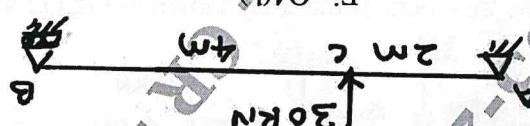

Fig Q4(b)
- b. Using Conjugate beam method determine maximum slope and maximum deflection for the simply supported beam shown in Fig Q4(b). $E = 204 \times 10^6 \text{ kN/m}^2$ and $I = 50 \times 10^6 \text{ m}^4$. (6 Marks)